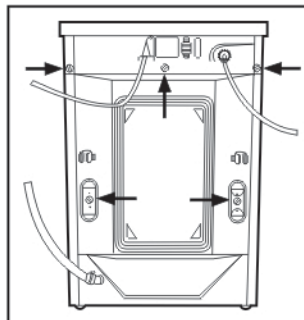
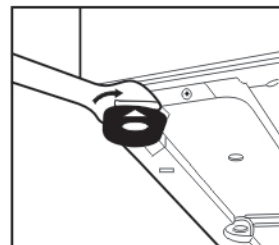

Fig.1
Fig.2
**Important:** The inside of the washing machine which consists of a floating unit, is fixed with screws at the back of the cabinet (Fig.1) during transport. Before starting the machine remember to release the floating unit by removing the above screws. To prevent water spray from entering the machine, remember to close the holes left open by the screws with the plastic caps provided in the packet containing the owner's manual. And rescrew the holes where the iron piece is taken down with the former two screws. Attention: keep the packing screws and plastic caps in a safe place for later use. It is important for the machine to be perfectly level (the angle of inclination on the work surface must not be more than 2 degrees). For this reason the machine is fitted with adjustable feet used for levelling the machine before use (Fig.2). In the case of flooring with carpeting, remember to check that the ventilation in the support area is not plugged.